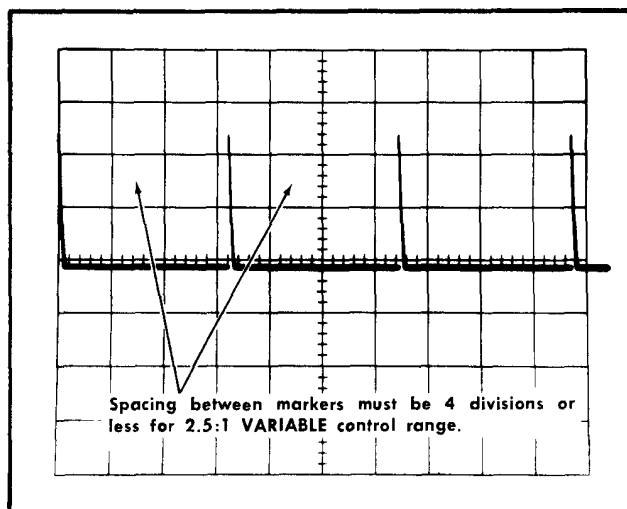

Fig. 5-16. Typical CRT display showing adequate VARIABLE TIME/DIV control range.
- CHECK—CRT display for four-division maximum spacing between markers (2.5:1 range; see Fig. 5-16). UNCAL light must be on when VARIABLE TIME/DIV control is not in CAL position.